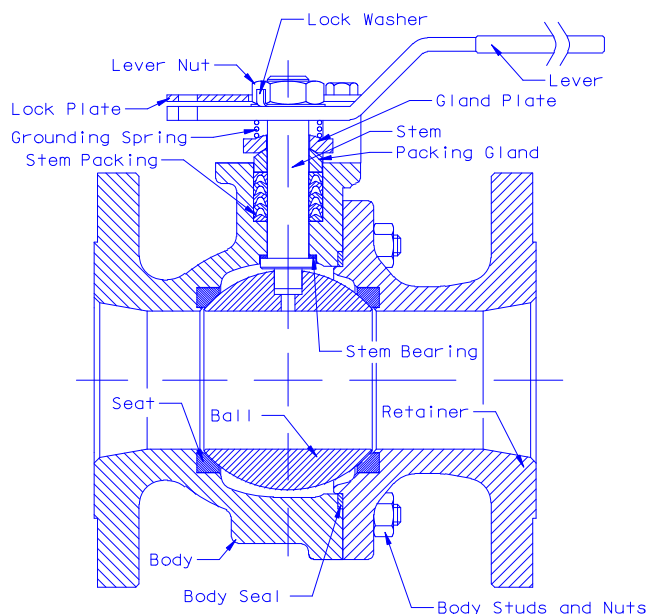

Figure 1: Typical Standard Port Valve Assembly
<p>Limitations</p> <ul style="list-style-type: none"> Conditions supporting no greater than Category III valves. Valves are not to be used in safety functions such as safety loops or separating incompatible fluids. For gases and liquids in Groups 1 & 2. In-line service only, not recommended for end of line service. Service to be compatible with the materials of construction. Prior to selection it is the user's responsibility to determine that the valve is appropriate for the intended application. Application not to allow corrosion $>.002"/\text{year}$ ($.05\text{mm}/\text{year}$). The possibility of material deterioration in service and need for periodic inspections is the responsibility of the user. Mechanical supports are not to be welded directly to the valve, however may be fitted to the associated piping. It is the piping system designer's responsibility to implement appropriate protection measures to minimize reaction forces and moments, which result from supports, attachments, piping, etc. Laws of the state must be observed as they apply. In service inspections may be required by the national authorities of the country where the valve is installed. Some National/Local authorities may require periodic hydrostatic testing. Only use Conbraco replacement parts. On-off service only (not to be used for throttling). Valves are primarily intended for industrial use. 	<p>Installation</p> <p>Proper valve selection is the first step in any successful installation. Refer to an "Apollo Ball Valve Binder", where applicable for application guidance or contact your distributor or the factory for more detailed assistance.</p> <p>WARNING: All installations shall be provided with pressure relief devices in accordance with the requirements of the Pressure Equipment Directive 97/23/EC. Proper installation prior to initial operation is the user's responsibility. Furthermore where an additional hazard can occur due to valve exposure to fire or other unexpected external heat source, a supplemental pressure relief device shall be installed to protect against excessive pressure. This device shall prevent the pressure from rising more than 21% above the maximum allowable working pressure.</p> <p>Pre-Installation Inspection</p> <p>Inspect the piping system prior to valve installation whenever possible, to insure that it has been properly flushed and cleared of construction and fabrication debris. The seating surfaces in soft seated valves are particularly susceptible to weld slag and sand blasting grit. Pipe scale, metal chips and other foreign materials should be avoided.</p> <p>Just prior to installation, remove each valve from its packing, install handle and other parts if shipped loose (see figure 1) and remove any end covers. Examine the flow bore for debris. All Apollo ball valves are shipped in the open position to prevent damage to the ball surface. Any grit or foreign matter must be removed. Do not install a damaged valve.</p> <p>It is also important to check for valve operation clearances. If necessary, valves can be installed at angles other than upright or vertical.</p>
- **Standard & Full Port only** Insert the retainer seat and place the retainer on the body. The ANSI flange bolting will always straddle the valve centerlines. See Figure 1. Loosely assemble the body bolting nuts.